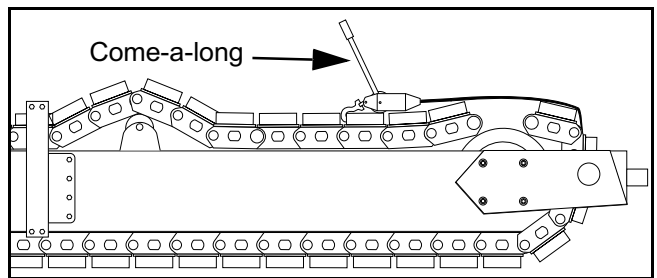

Figure 6 - 8 Pull track ends together
- 6) Use a come-a-long or hoist to lift and draw the track ends together. (Figure 6 - 8)